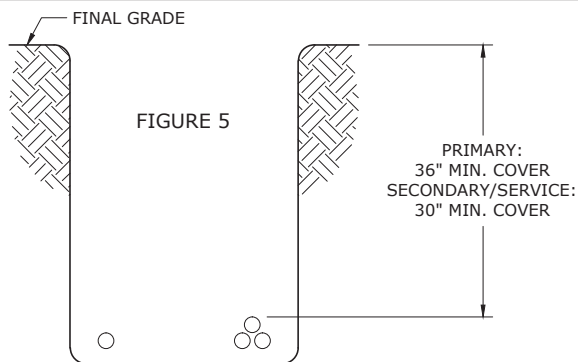

FIGURE 5
1. THE TRENCH CONFIGURATIONS SHOWN ON DWG. 22.01-102A AND THIS DRAWING WITH A SPECIFIED SEPARATION BETWEEN CABLES ARE THE ONLY APPLICATIONS THAT REQUIRE SEPARATION BETWEEN CABLES. SEPARATION MAY BE OBTAINED EITHER VERTICALLY AS SHOWN ON DWG. 22.01-102A OR HORIZONTALLY AS SHOWN ON THIS DRAWING. ALL OTHER APPLICATIONS WILL USE THE RANDOM LAY CONFIGURATION SHOWN ABOVE IN FIGURE 5. RANDOM LAY ALLOWS CABLES TO BE PLACED INTO A TRENCH WITH NO REQUIRED SEPARATION.
3. IF REQUIRED CABLE SEPARATION CANNOT BE OBTAINED DUE TO SPACE LIMITATIONS, PROVIDE MECHANICAL PROTECTION BY INSTALLING THE CABLE IN SCHEDULE 40 OR GREATER PVC CONDUIT WITH A MINIMUM OF TWO (2) INCHES OF CONCRETE ABOVE AND BESIDE THE CONDUIT.